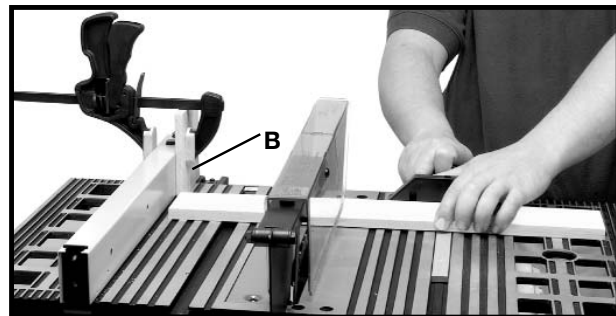

Fig. 42B
When cross-cutting a number of pieces to the same length, a block of wood (B) Fig. 42B can be clamped to the fence and used as a cut-off gage as shown in Fig. 42B. It is important that this block of wood always be positioned in front of the saw blade as shown. Once the cut-off length is determined, secure the fence and use the miter gage to feed the work into the cut. This block of wood allows the cut-off piece to move freely along the table surface without binding between the fence and the saw blade, thereby lessening the possibility of kickback and injury to the operator.
⚠ CAUTION WHEN USING THE BLOCK (B) FIG. 42B, AS A CUT-OFF GAGE, IT IS VERY IMPORTANT THAT THE REAR END OF THE BLOCK BE POSITIONED SO THE WORK PIECE IS CLEAR OF THE BLOCK BEFORE IT CONTACTS THE BLADE.